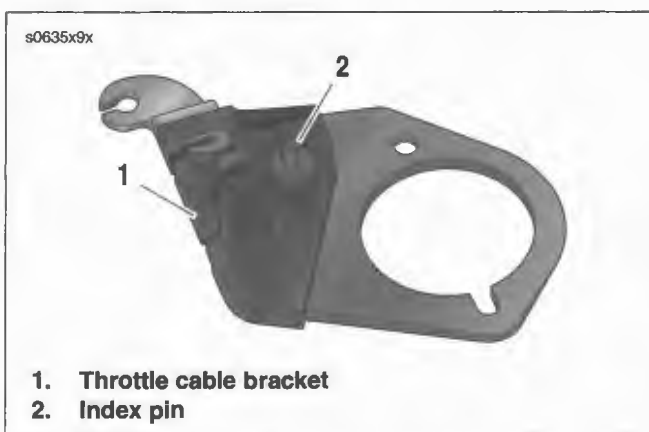

Figure 4-26. Throttle Cable Bracket
4. See Figure 4-26. Insert index pin (2) at bottom of throttle cable bracket (1) into hole in boss at top of induction module.